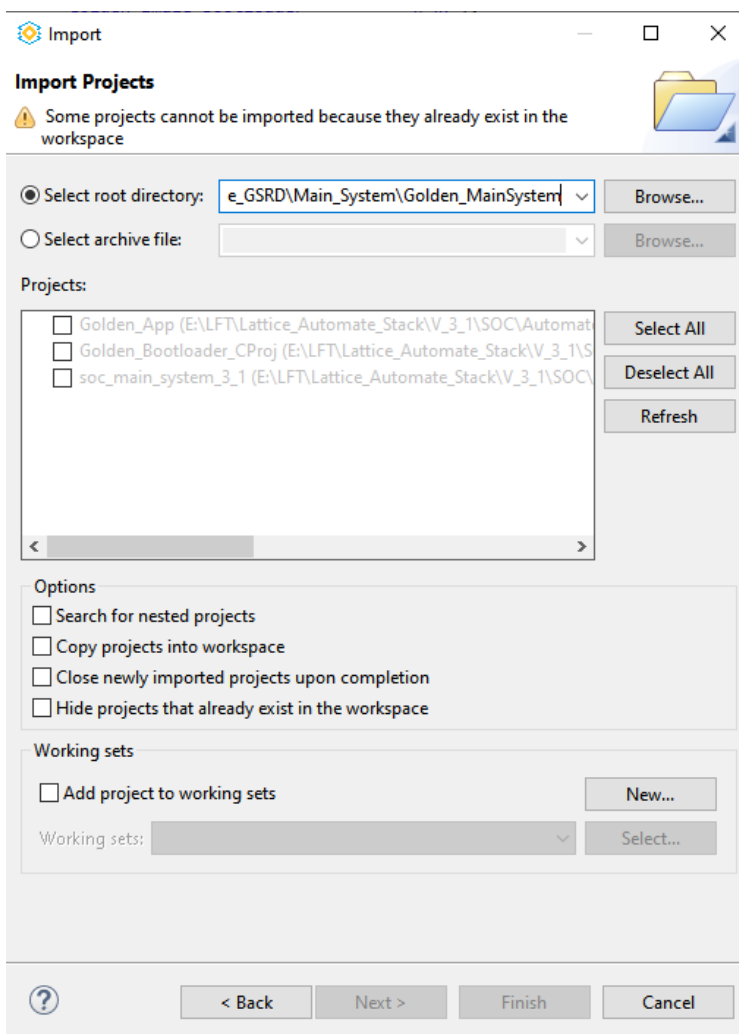

Figure C.34. Import Project
6. Select the project as shown in Figure C.34: \MainSystem\Golden_MainSystem.